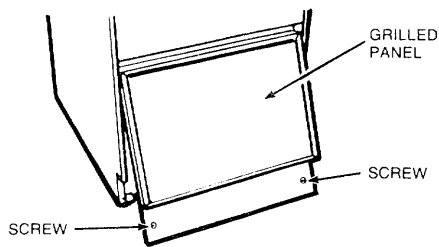

FIGURE 2
2. Remove the two screws from the bottom of the grilled front panel. (Figure 2)
4. Remove front grille (Figure 2).